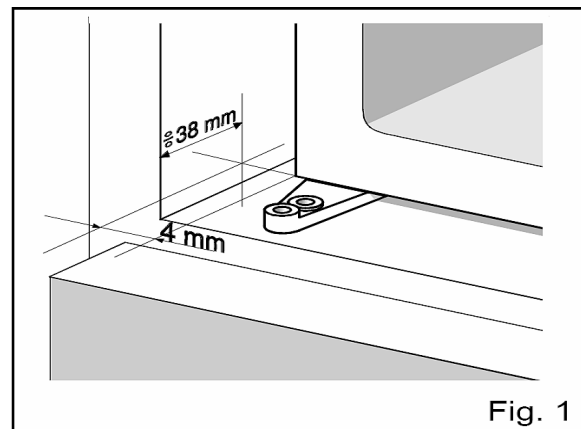

Fig. 1
- 1) Push the appliance into the kitchen unit's space so there is 38mm (minimum of 36mm) between the rear of the appliance and wall. Allow at least 4mm free space on both sides between the appliance and the interior sides of the kitchen unit (Fig.1, at right).